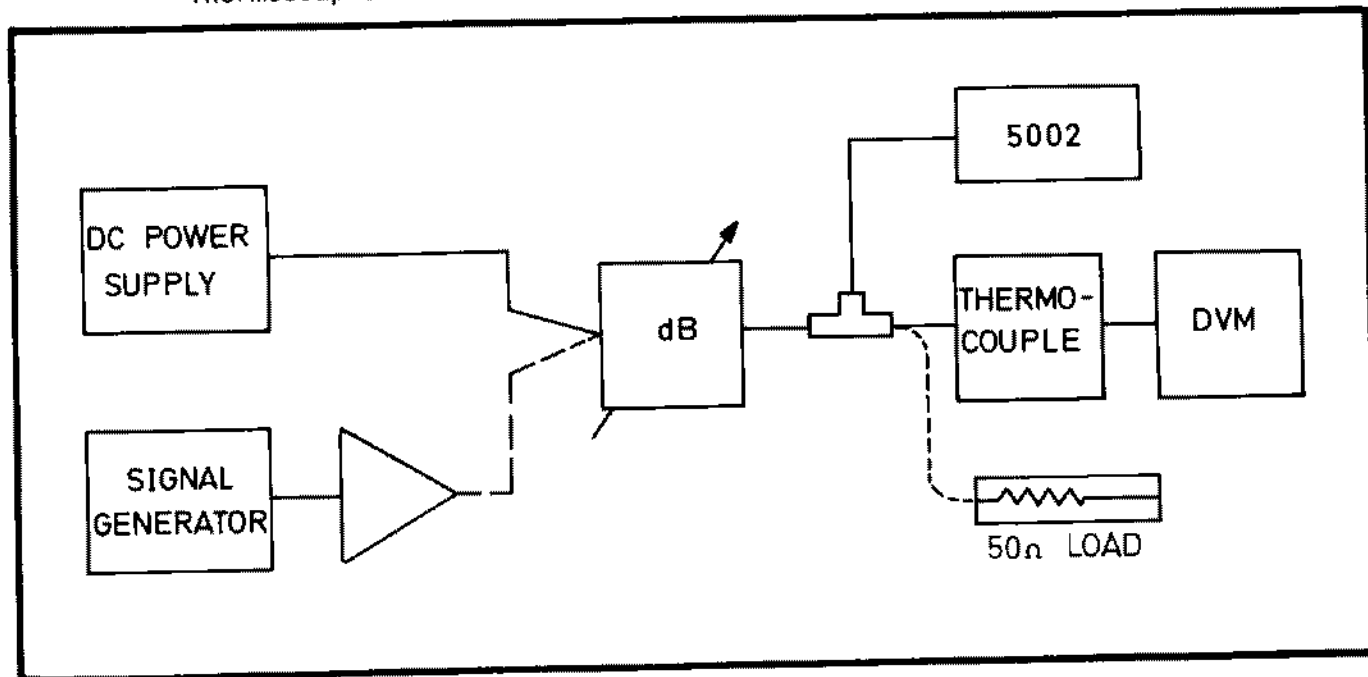

Fig. 6.1 Range Attenuator Setting
- 6.5.8.2 Connect the test equipment as shown in Fig. 6.1 with the DC power supply connected to the attenuator input. Connect the thermocouple to the attenuator using the T piece from the 50  $\Omega$  load. The amplifier should be used only when necessary to obtain the required output level from the signal generator in use.